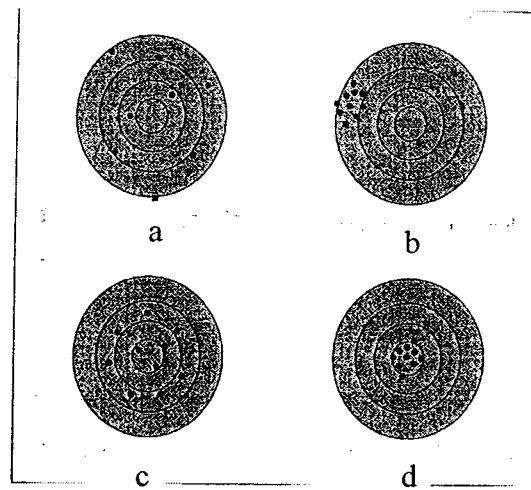

Figure 2 / Rajah 2
- [b] Figure 2 shows the illustration of accuracy and precision using pattern of darts on a dashboard. Comment on the degree of accuracy and precision of the results for each of the diagrams shown (a, b, c and d).